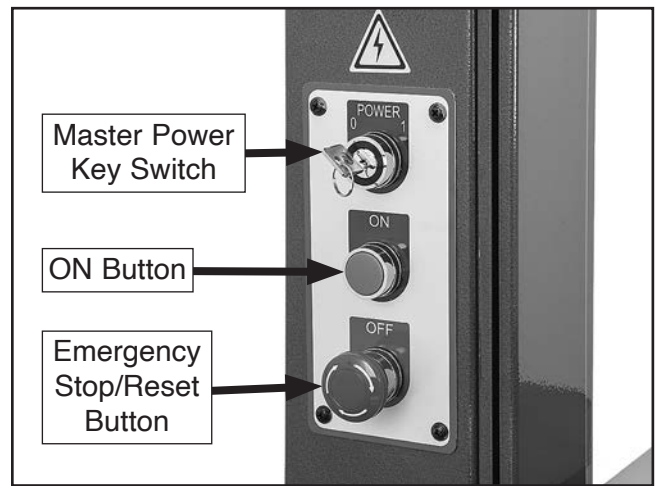

Figure 42. Location of power controls for turning machine **ON** and **OFF**.
4. Insert key into Master Power Key Switch, then rotate switch to "1" position (see **Figure 42**). This turns incoming power **ON**.
5. Twist Emergency Stop button clockwise until it springs out (see **Figure 42**). This resets switch so machine can start.
6. Press **ON** button (see **Figure 42**) to turn machine **ON**. Verify motor starts up and runs smoothly without any unusual problems or noises.